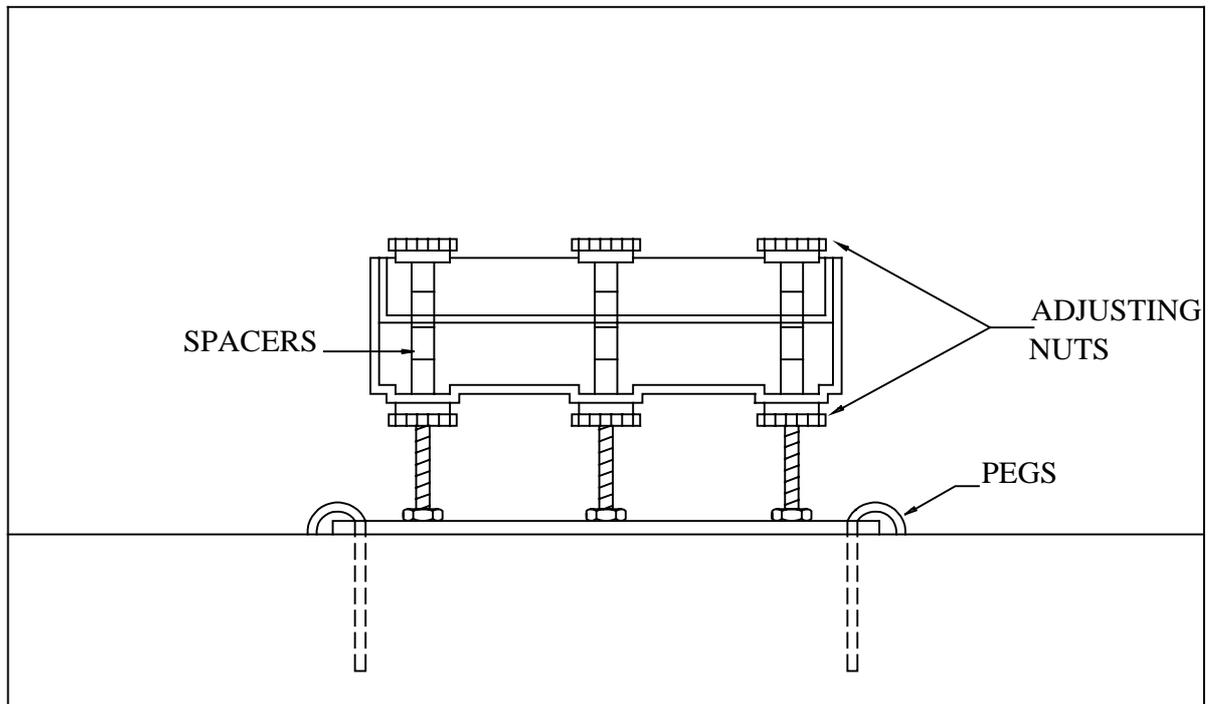

FIGURE 1 THE BASEPLATE METHOD IN DETAIL.
2. Assemble the baseplate and raingauge as in figure 1.